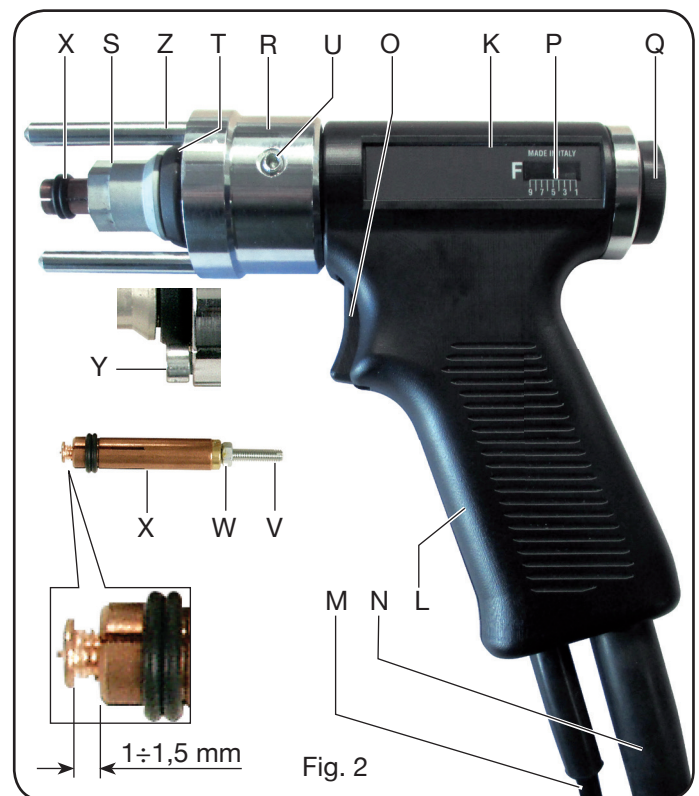

Fig. 2
clamp according to the corresponding diameter. Insert the stud bolt in the clamp **X** so that it is firmly held in place by the four springs. Adjust the protrusion of the stud bolt from the front of the clamp to $1 \div 1.5$ mm using the screw **V**, then tighten with the nut **W** (figure 2). Insert the clamp **X** into the chuck of the gun (fig. 2), press until you feel it rest all the way down, and tighten the nut **S** using the 17-mm hexagon wrench provided.
- Insert the chosen stud bolt in the clamp **X** (previously adjusted as described in Fig. 2).